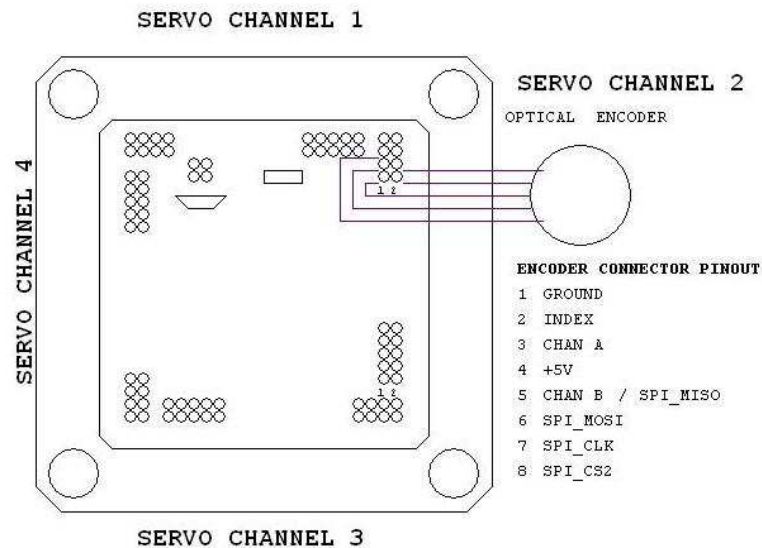

Figure 6 Feedback Encoder Connectors
There are four encoder input connectors, The connectors accept index and AB quadrature pulses, and provide 5V power to the encoders. See Figure 6 below. (Also has optional absolute encoder capability which is not implemented yet)
6. Connect the encoder to the board. Refer to Figure 6 Feedback Encoder Connectors, page 57.